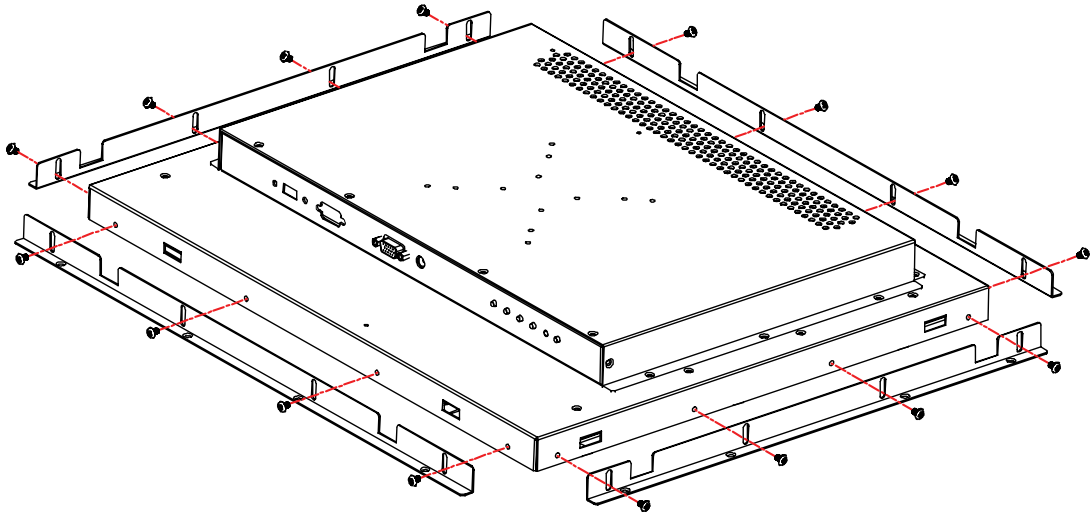

Figure 3.1 ES-2100 Open frame mounting bracket
1. Place the ES-2100:LCD open frame face down on a flat surface and lay out all the four mounting brackets and screws, (See figure 3.1).